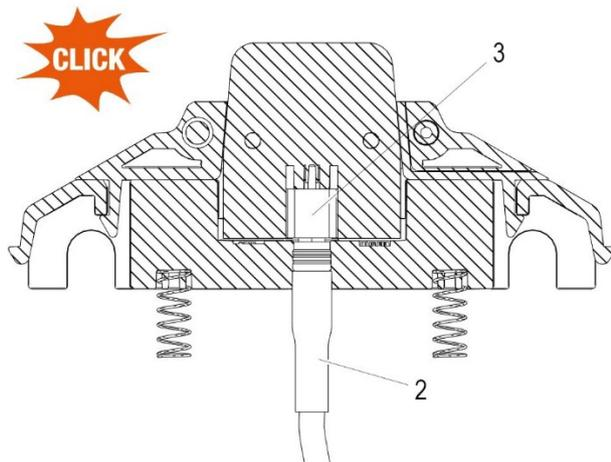

Fig. 167: Click in connector
→ The data cable connector (2) must audibly click into the circuit board connector (3) (see Fig. 167).